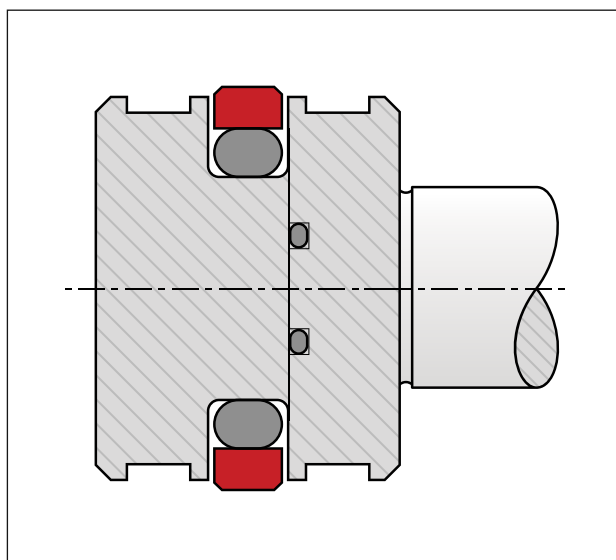

Figure 39: Installation in split groove.
Installing seals in split grooves is straightforward. The installation sequence should align with the seal's design, ensuring each seal element remains properly aligned without twisting, as shown in figure 39. During final assembly, where the piston is inserted into the cylinder, elastomeric or spring-energized seals require calibration. If the cylinder barrel has an extended lead-in chamfer, it can serve this purpose; otherwise, a calibration sleeve is recommended.
- Begin by placing the O-ring in the groove, then expand the seal ring carefully over the piston (see figure 39). For PTFE seals, heating the material in oil, water, or with a hot air fan to approximately 80–100 °C can ease installation by temporarily expanding the seal.